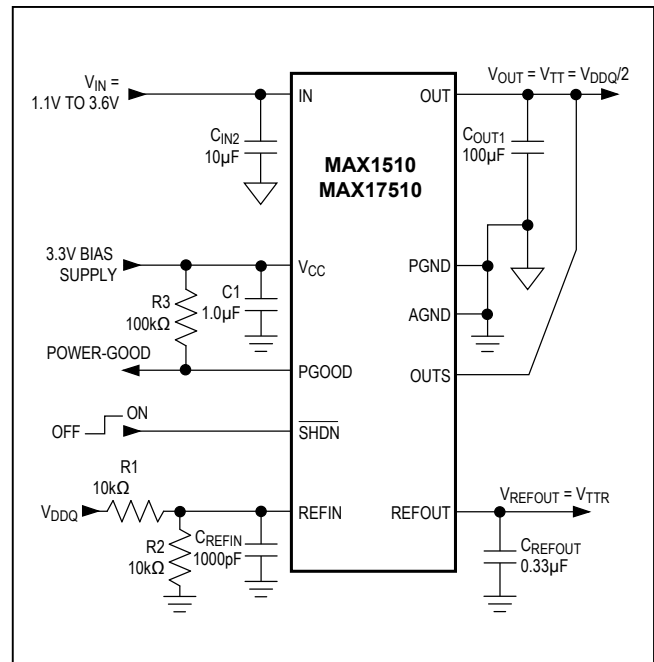

Figure 1. Standard Application Circuit
( $V_{IN} = 1.8V$ ,  $V_{CC} = 3.3V$ ,  $V_{REFIN} = V_{OUTS} = 1.25V$ ,  $\overline{SHDN} = V_{CC}$ , circuit of Figure 1,  $T_J = T_A = -40^\circ C$  to  $+85^\circ C$  for MAX1510ETB,  $T_J = T_A = -40^\circ C$  to  $+125^\circ C$  for MAX17510ATB, unless otherwise noted. Typical values are at  $T_A = +25^\circ C$ .) (Note 1)
(Circuit of Figure 1.  $T_A = +25^\circ\text{C}$ , unless otherwise noted.)
The MAX1510/MAX17510 are low-voltage, low-dropout DDR termination linear regulators with an external bias supply input and a buffered reference output (see Figures 1 and 2). VCC is powered by a 2.7V to 3.6V supply that is commonly available in laptop and desktop computers. The 3.3V bias supply drives the gate of the internal pass transistor, while a lower voltage input at the drain of the transistor (IN) is regulated to provide VOUT. By using separate bias and power inputs, the MAX1510/MAX17510 can drive an n-channel high-side MOSFET and use a lower input voltage to provide better efficiency.
The MAX1510/MAX17510 regulate OUTS to the voltage set at REFIN, making the devices ideal for memory applications where the termination supply must track the supply voltage. Typically, REFIN is set by an external resistive voltage-divider connected to the memory supply (VDDQ) as shown in Figure 1. The maximum output voltage of 1.5V is limited by the gate-drive voltage of the internal n-channel power transistor.
| 6.1             |               | Corrected typos in <a href="#">Electrical Characteristics</a> table and <a href="#">Figure 1</a>  | 3, 10             |